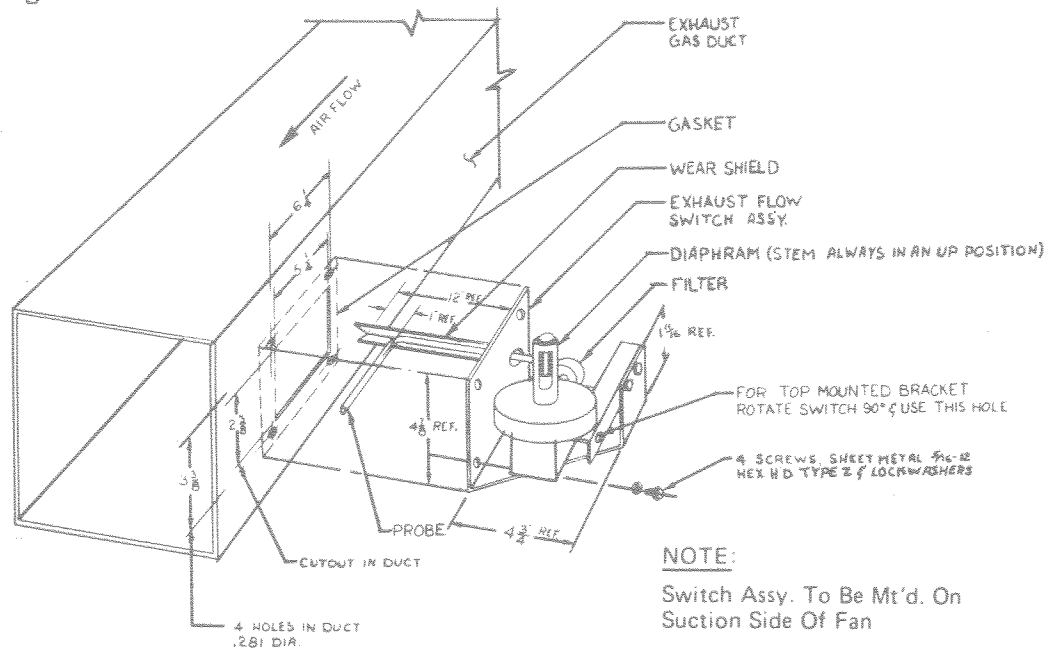

Fig. 3 - Drawing showing the installation of the exhaust fan flow switch.
8. Mount the exhaust fan flow switch in the dryer exhaust duct as shown in figure 3.